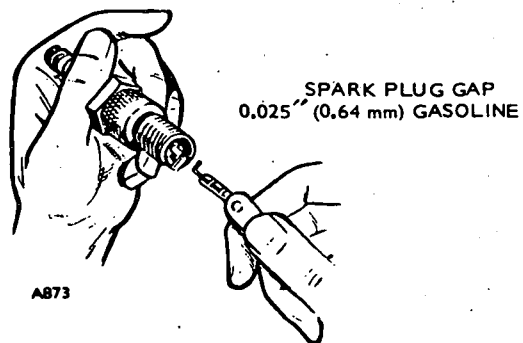

FIGURE 9. SERVICE PROCEDURES
Use this factory recommended maintenance schedule (based on favorable operating conditions) to serve as a guide to get long and efficient welder life. Neglecting routine maintenance (Figure 9) can result in failure or permanent damage to the welder. Maintenance is divided into two categories: (1) *operator maintenance*—performed by the operator, and (2) *critical maintenance*—performed by qualified service personnel.